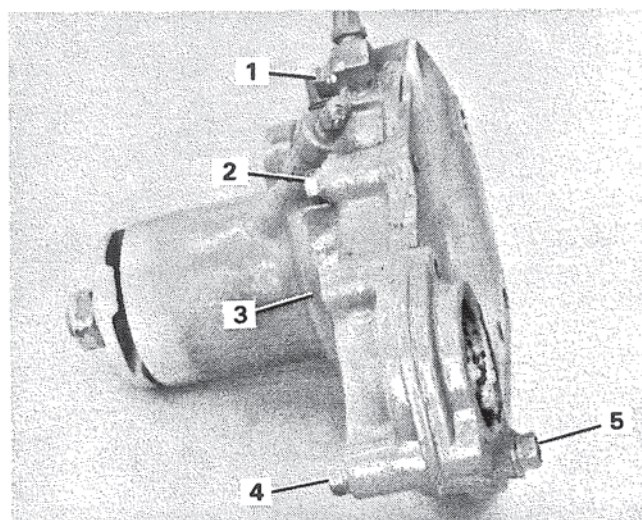

Figure 2. Removing Cover.
1. Remove cover by removing five (5) cover mounting bolts using a 1/2 in wrench. Figure 2.